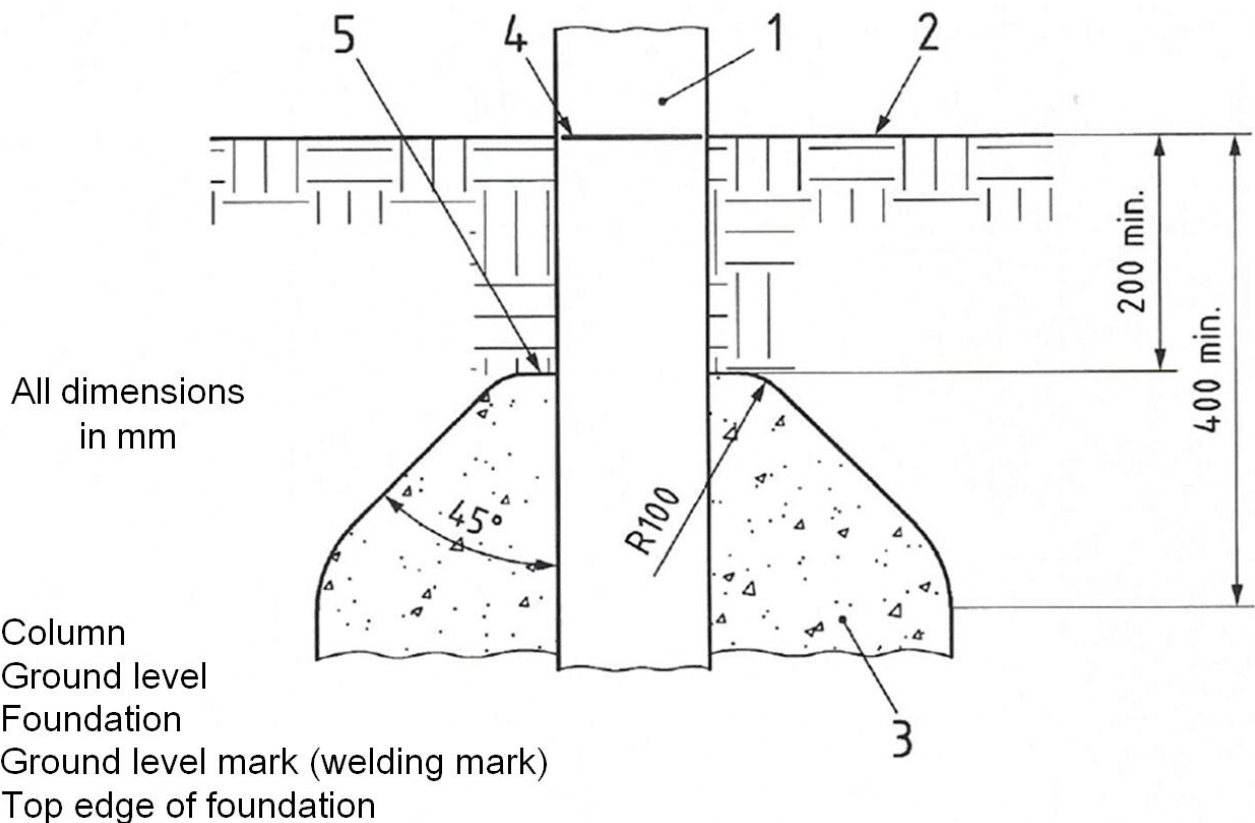
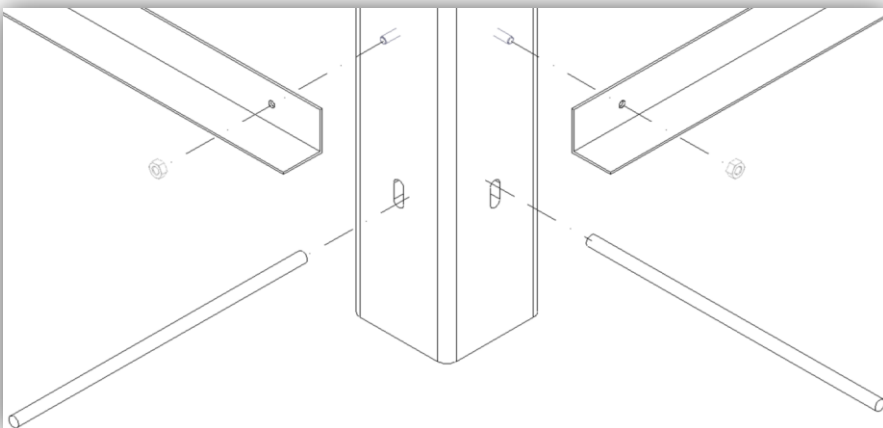

Figure 1 - Beveling of foundation in combination with loose filling material
Figure 3 - Installation of the angle profiles and wall anchors
According to DIN-EN 16630: 2015, when using loose material such as sand, gravel, mulch or wood chips, the foundations must be made in beveled form (see Fig. 1).
A general layer thickness of minimum 200mm for the fall protection is required. So the foundation is 200mm below ground level (see Fig. 1). The required minimum layer thicknesses for the equipment can be determined of table 1 on page 3. Please note the sub-points a-c.
5. The supplied fastening utensils are used as a positioning aid (from no. 51 in the drawings). The angle profiles are placed 400mm below ground level (see "bottom" weld mark Fig. 1) on the pre-assembled stud bolts of the columns and fixed with the hex nuts (see Fig. 3 & 4).